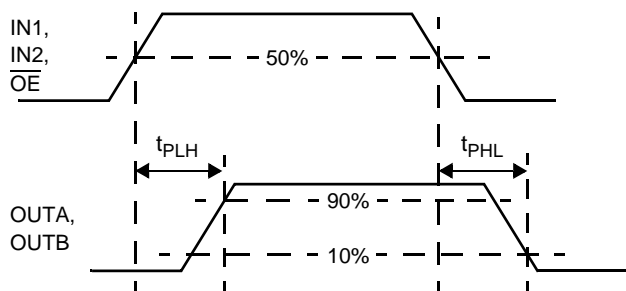

Figure 4. t_{PLH} , t_{PHL} , and t_{PZH} Timing
16. Load of Output is $8.0\ \Omega$ resistance. see Figure 4